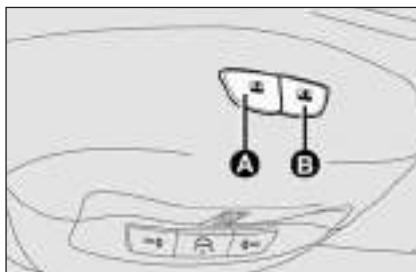

fig. 66
The “skydome” type sunroof consists of two glass panels (a fixed one and a sliding one) fitted with sun curtains with two manual control positions (open/closed). Sunroof operation is possible only with the ignition key at **MAR**. Buttons **A** and **B**-fig. 66, located on the central ceiling light, control sunroof opening and closing.
- press button **B**-fig. 66 at close position;